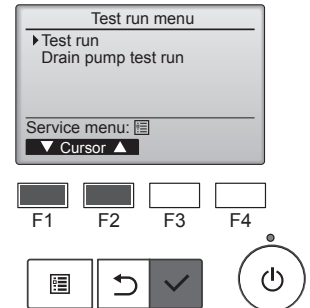

Fig. 7-2
- ② Select "Test run" from the Test run menu, and press the [SELECT] button. (Fig. 7-2)
- ③ The test run operation starts, and the Test run operation screen is displayed.